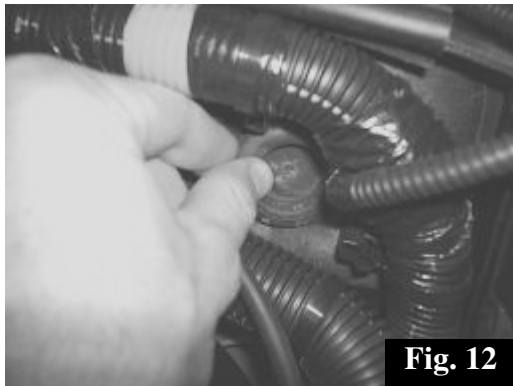

Fig. 12
20. Find the rubber grommet in the top driver's side of the fire wall underneath the hood and remove it. Fig. 12